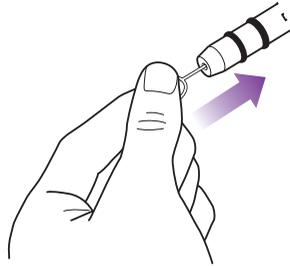

fig.29
- 3 Use the provided nozzle cleaner or a small diameter stiff metal wire, such as a straightened metal paperclip, and carefully insert the end of the wire into the nozzle orifice. See illustration above. (fig. 29)